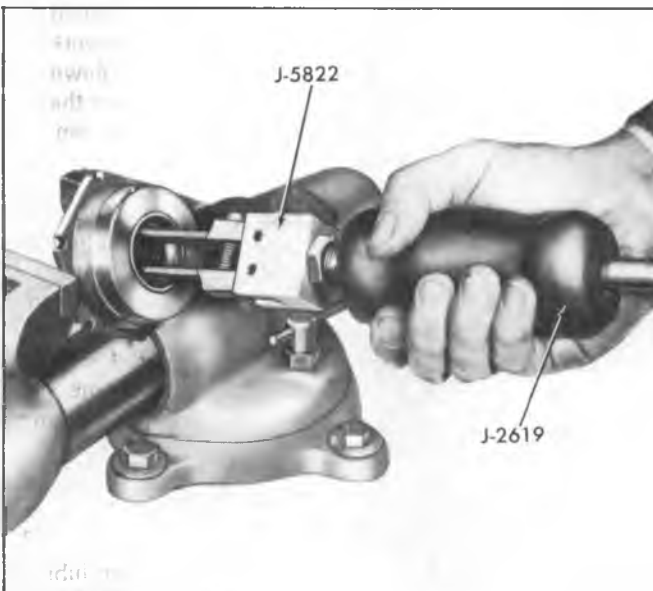

Fig. 9-Removing Adjuster Plug Bearing Race
1. **All Except Corvette-** Remove the wormshaft bearing race using Tool J-5822 and Slide Hammer J-2619 as shown in Figure 9.